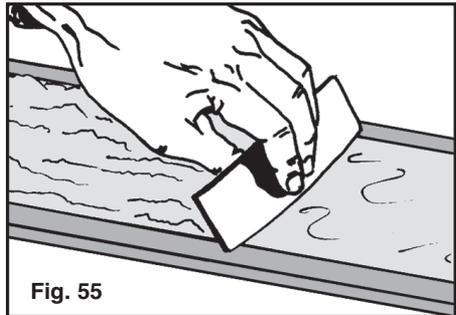

Fig. 55
4. Apply Smooth-It between the strips of tape and use the Spreader to spread evenly. Be sure Smooth-It covers the entire area between the taped edges. It should be even with the top of the tape when smoothed (Fig. 55).